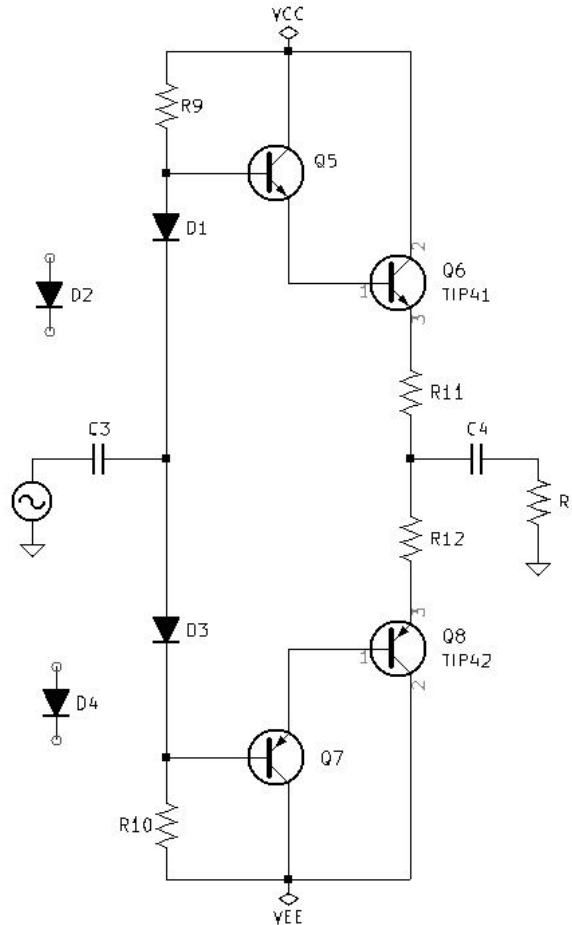

Figure 5.2: Push Pull Amplifier Cross-Over Distortion Test Circuit.
- (b) Build your calculated Push-Pull Amplifier with D2 and D4 removed from the circuit. Also, replace RL with a $10K\Omega$ resistor. See Figure 5.2 *Push Pull Amplifier Cross-Over Distortion Test Circuit.* on page 54.